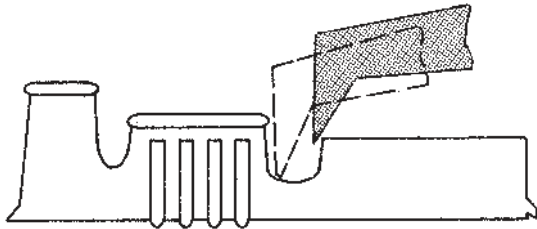

Figure 4
**NOTE** *If pickup point is contact end of wire barrel, the backstroke overtravel should approximate the length of the transition between wire barrel and contact portion (see Figure 4). For other types of terminals (e.g. ring tongue), the overtravel should be proportionate to the Figure 4 example – with due consideration given contact features and configuration (e.g. stud hole).*